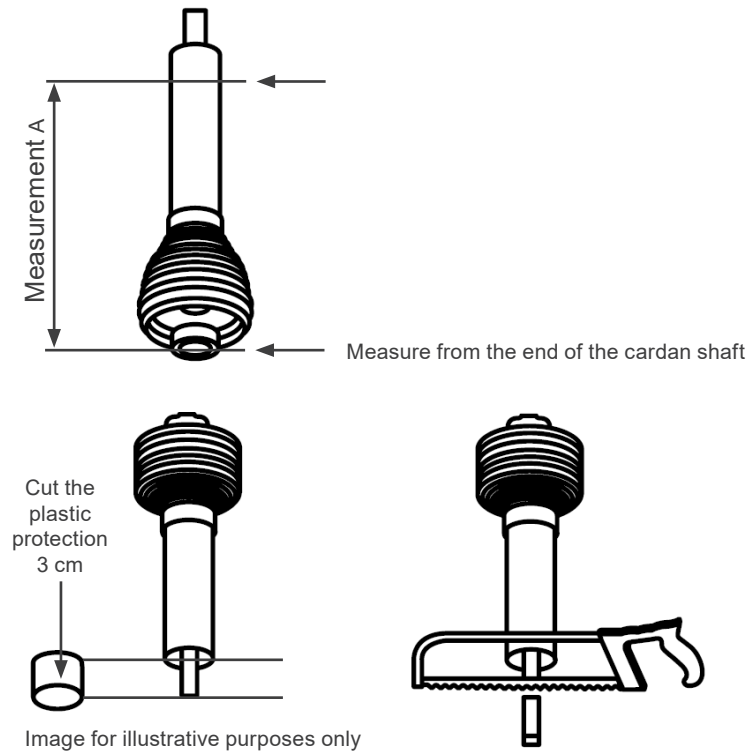

Figure 6.4: Illustrative image of the cardan shaft assembly
- The measurement between the power take-off shafts must be divided by 1.3. The value of this division will indicate measurement a. Mark the cardan shaft with measurement A and cut off the excess, as shown in the image (Figure 6.4 on page 131).
- After completing the cut, mark the plastic protection of the male and female cardan shafts and remove 3 centimeters of the plastic protection only, cutting with a saw, leaving the cardan shaft with the tip exposed, as shown in the image (Figure 6.4 on page 131).